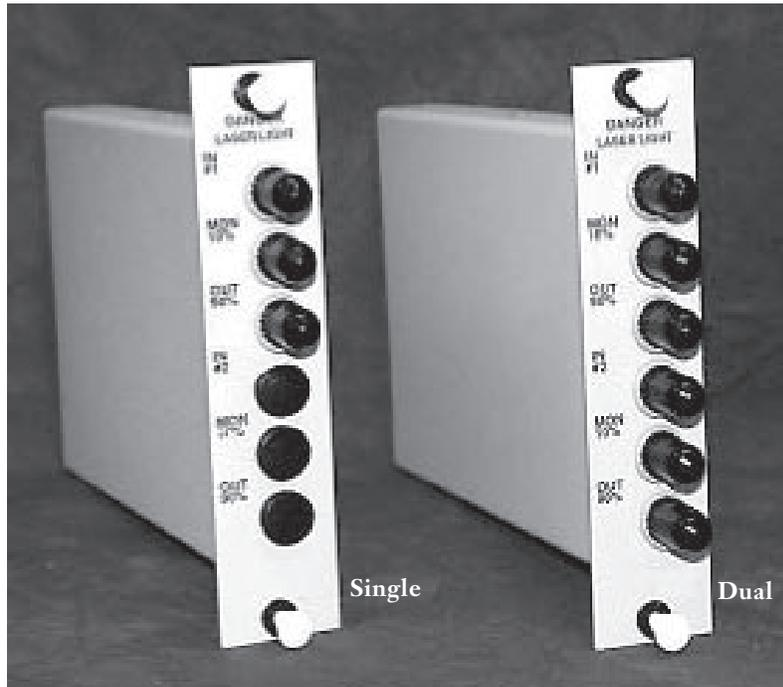

Figure 1
2.1 Module Identification: The Optical Coupler Module may be a 50/50 splitter module or a 90/10 monitor module with one or two optical circuits (Figure 1). A single-path module will have one **input** port and two **output** ports; a dual module will have two **inputs** and four **outputs**.